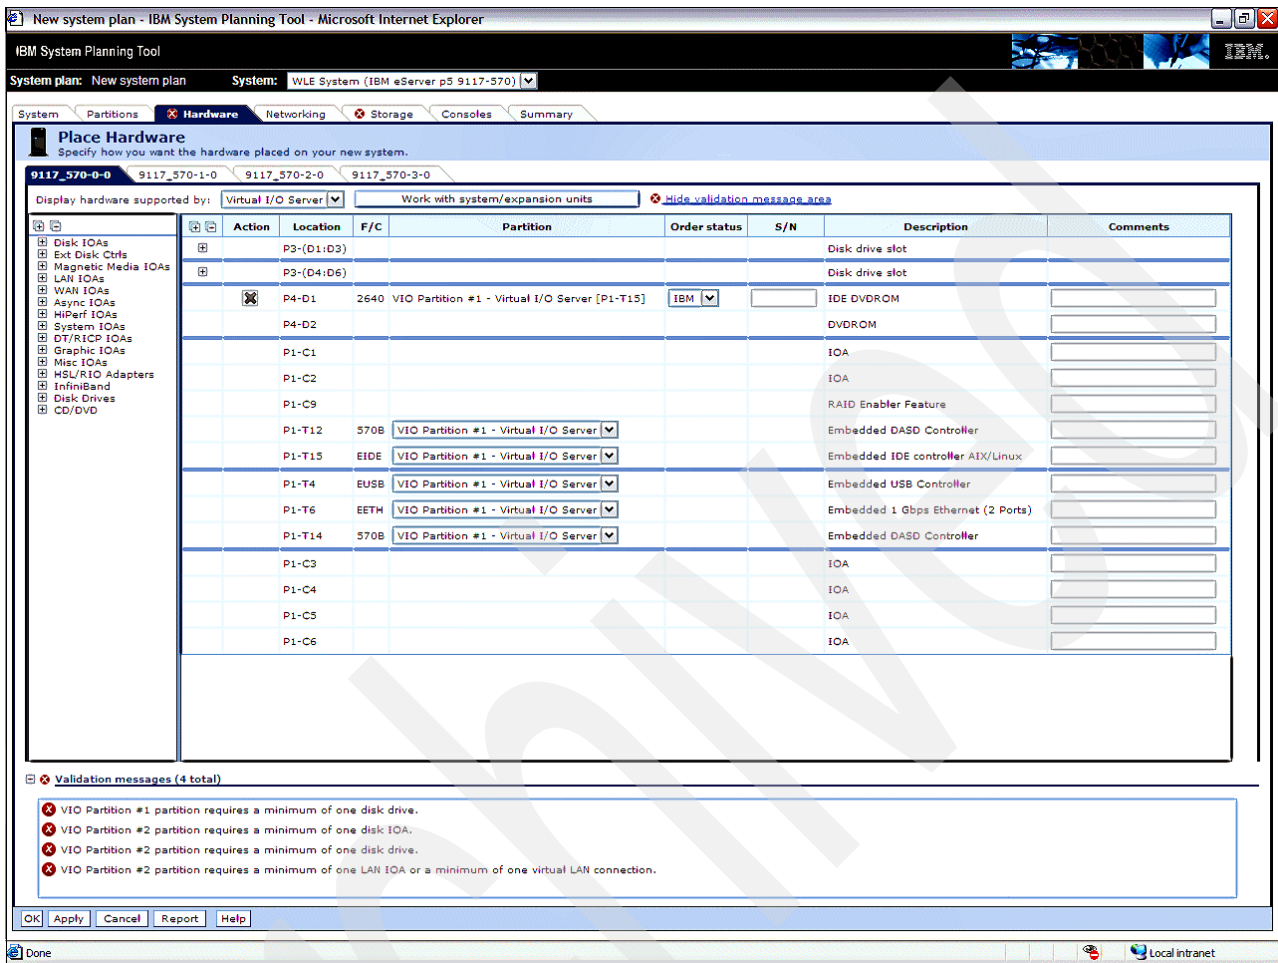

Figure 5-39 Hardware definition
19. Based up on the system recommended by WLE, a default layout of the system hardware is placed under the Hardware tab. If additional adapters are required add them to the hardware. Figure 5-39 shows the default hardware of the WLE recommended system.